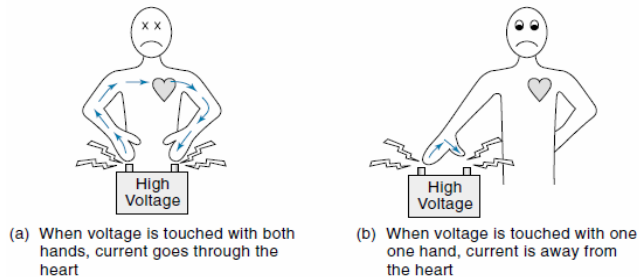

Figure 2.16 Issues in electrical safety
- Two examples of a person being shocked are shown in Figure 2.16.
- In Figure 2.16(a) the man is touching the voltages with both hands, so the current path goes near his heart—a very dangerous situation.